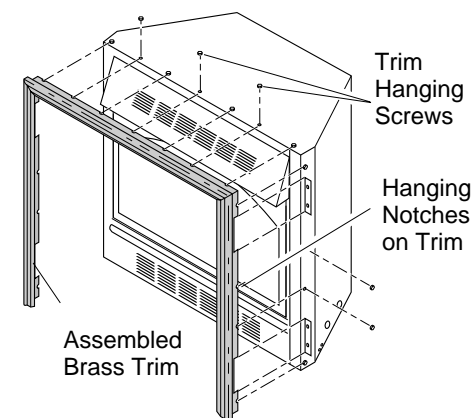

Figure 6 - Attaching Brass Trim to Fireplace
8. Tighten trim hanging screws (#10 x 6.25 shoulder) into holes in cabinets. Place the assembled trim onto fireplace cabinet. Align hanging notches on trim with hanging screws on side of fireplace (see Figure 6). Push trim firmly into place, sliding hanging notches over hanging screws.
- Install brass trim after final finishing and/or painting of wall (see Figure 6, page 7).